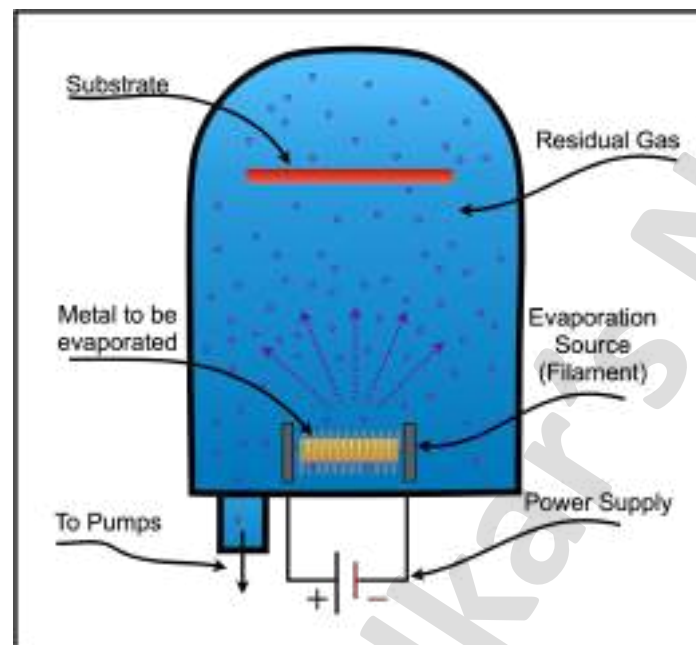

Fig. 25: Schematic of thermal evaporator
- A schematic of thermal evaporator is shown in Fig. 25. A thermal evaporator uses an electric resistance heater to melt the material and raise its vapour pressure to a useful range.